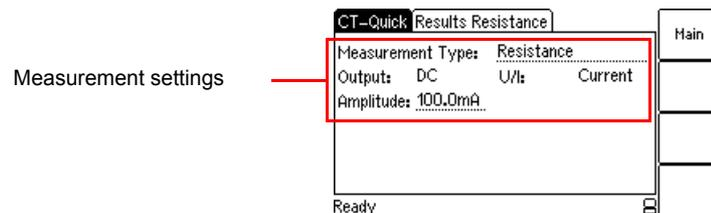

Figure 9-14 **CT-Quick** test card with settings for VT winding resistance measurement
3. Select the **Resistance** measurement type and set the amplitude of the DC output current appropriately. Refer to Figure 9-14.